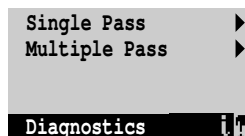

Figure 6-9 Video Diagnostics single pass or multiple pass
**4. *Select Single Pass or Multiple Pass at the screen shown in Figure 6-9.***